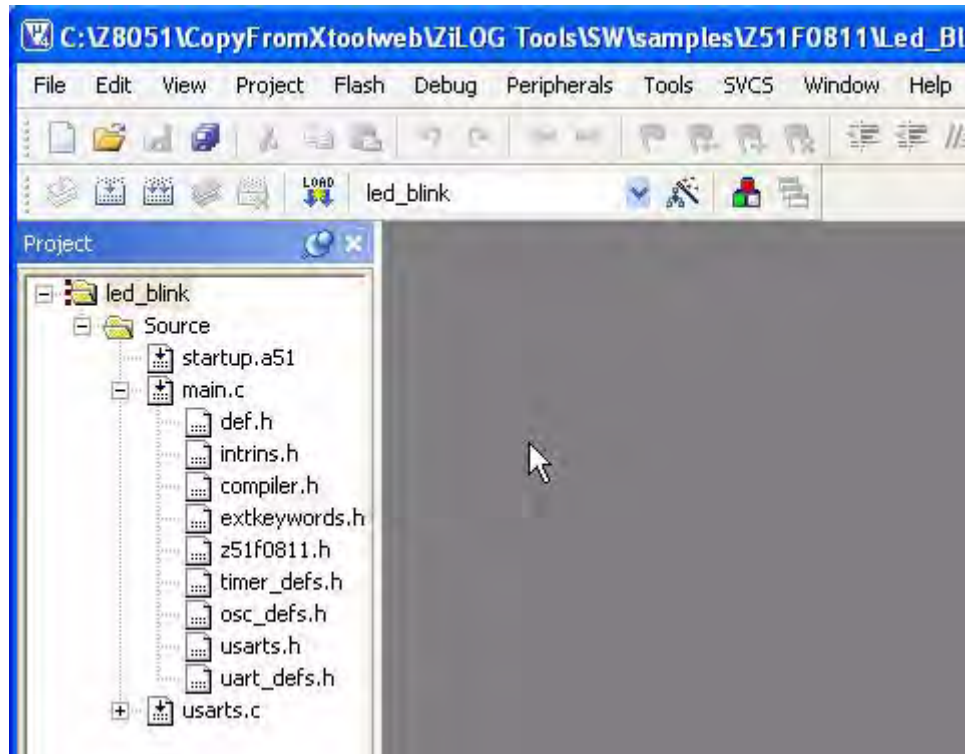

Figure 9. Expanded Source Code
2. Open the item labeled **Source**, which represents all of the source code for the project. Click again on the plus sign icon [+] to reveal the three source code files that have been placed into this project. These files are `startup.a51`, `main.c`, and `usarts.c`, as shown in Figure 9.